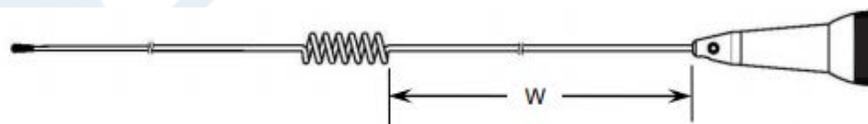

Figure 4
- Note:** Ensure the whip is located and completely seated inside the antenna whip adapter. The Tuned Length "W" is determined by measuring the distance between the top of the antenna adapter-spring and the bottom of the antenna phasing coil as shown in **Figure 4**. With the whip removed from the adapter, the cut length dimension will be approximately 1" (25mm) longer than the Tuned Length "W".
- Cut the antenna whip as required to establish the specified Tuned Length "W" as shown in Figure 4.